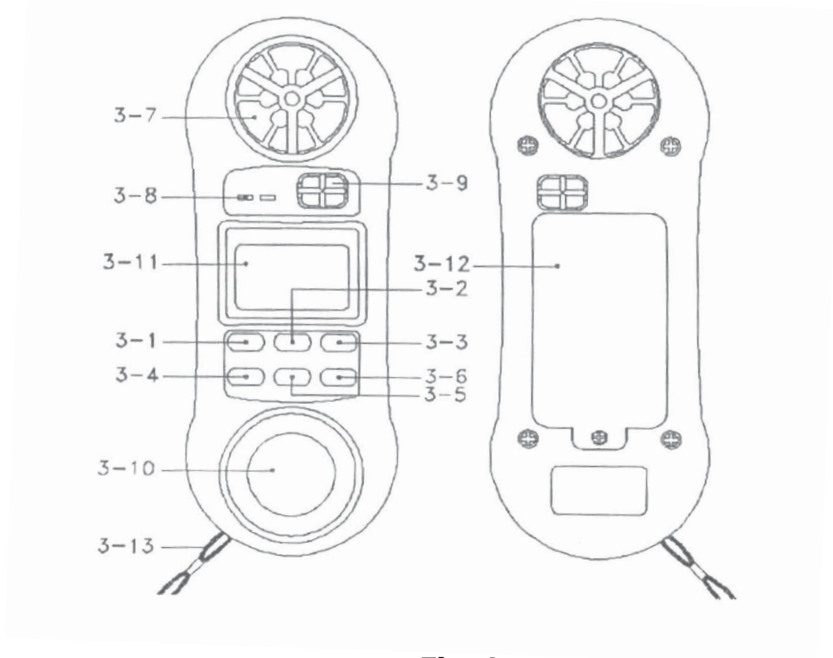

Fig. 1
- 1) Power on the instrument by pressing the " ON Button " (3-1, Fig.1).
- 2) Select the Anemometer function by pressing " Function Button " (3-6, Fig.1).
- 3) Press the " Unit/Zero Button " (3-4, Fig.1) to select unit that you want and then face the " Anemometer Sensor " (3-7, Fig.1) to the source of wind.
- 1) Power on the instrument by pressing the " ON Button " (3-1, Fig. 1)..
- 2) Plug a type K thermocouple probe in the " Thermocouple Input Socket " (3-8, Fig.1).
- 3) Select the Temperature function by pressing " Function Button " (3-6, Fig.1)
- 4) Press the " °F/°C Button " (3-5, Fig.1) to select °F or °C unit.
- 1) Power on the instrument by pressing the " ON Button " (3-1, Fig. 1).
- 2) Select the Relative Humidity function by pressing " Function Button " (3-6, Fig. 1).
- 2) Select the Light Measurement function by pressing the "Function Button" (3-6, Fig. 1) until the light value is displayed. The light display digits are oriented 180° from the other function displays for easy exposure and output reading of the light sensor.
- 3) Press the " Lux/Ft-cd Button " (3-5, Fig.1) to select measuring unit " Lux " or " Ft-cd ".
- * For best results zero the light sensor prior to use in a dark environment. Placing the light sensor end of the meter under a desktop or flat surface so as to block any light can accomplish this. Then press the " Unit/Zero Button " (3-4, fig.1) to set the meter indication to zero.
- 2) Select the Air Flow function by pressing " Function Button " (3-6, Fig.1) until the display show unit of CMM or CMM.
- * Air flow unit " CFM " or " CMM " can be select by pressing the " CFM/CMM Button " (3-4, Fig.1)
- * Area size can be set by pressing the " Area-Set Button " (3-5, Fig.1), then use the
Button (3-5, Fig.1)
Button (3-6, Fig.1)
Button (3-4, Fig.1)
- 4) Use the hand to hold the meter, face the " Anemometer Sensor " (3-7, Fig.1) to the measured wind. In the same time the air flow value (CFM, CMM) will show on the LCD display.
Pressing the " Hold Button (3-2, Fig.1) " will freeze the current reading value with a "HOLD" symbol on the display.
- 1) The Data Record function records & displays the maximum and minimum reading values. Start the Data Record function by pressing the " REC Button " (3-3, Fig.1) once.
- (a) Press the " REC Button " (3-3, Fig.1) once and the " Max " symbol along with the maximum value will appear on the display.
- (d) Clear the Max./Min. value recorded by pressing the " Hold Button " (3-2, Fig.1) once. Previous recorded Max./Min. value will be given up and then revert to the REC. function keep on recording.
- 1) When the LCD display shows " - 2) Open the " Battery Compartment / Cover " (3-12, Fig.1) and remove the battery.